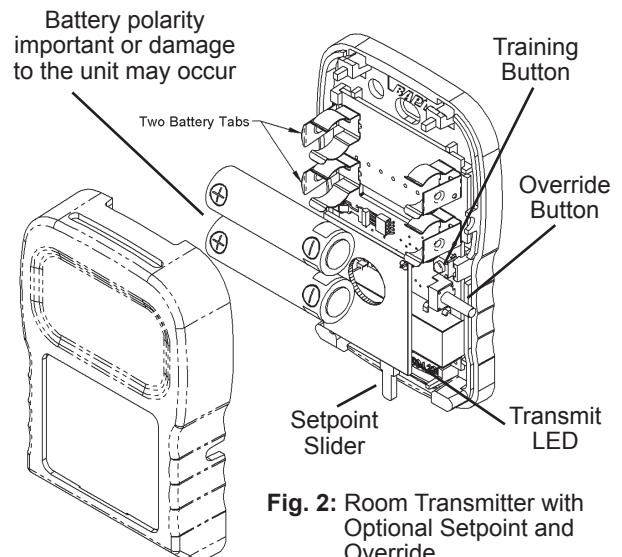
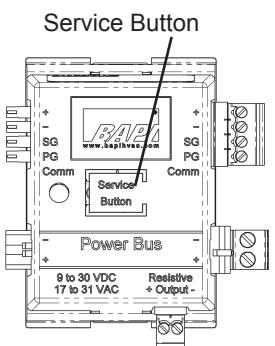

Fig. 2: Room Transmitter with Optional Setpoint and Override.
Fig. 3: Output Module
3. Remove the cover of the room transmitter and remove the battery tabs or install the batteries, observing polarity as shown in Fig 2. The small LED at the bottom right of the circuit board, next to the setpoint, will flash approximately once every 20 seconds, indicating a transmission. (The flash is very quick.)
4. Press and hold down the “Service Button” on the top of the output module (Fig 3) that you wish to train. Then, press and release the “training button” (see Fig 2) on the room transmitter. When the output module receives the “training transmission” from the room transmitter, the output module’s red LED will light. Release the “Service Button” on the output module and the red LED will go out. The transmitter and output module are now trained to each other. During normal operation, the output module’s LED will flash about once every 20 seconds indicating data reception from the transmitter trained to it.
4. Press and hold down the “Service Button” on the top of the output module (Fig 3). Then, press and release the OVERRIDE button on the transmitter (See Fig 2). (Note: If the unit was not ordered with an override function, then the OVERRIDE button will be shorter and will not extend outside the case but will still be accessible upon removing the cover.) When the output module receives the “Training Setpoint” info from the transmitter, the output module’s red LED will light. Release the “Service Button” on the output module and the red LED will go out. The transmitter and output module are now trained to each other. During normal operation, the output module’s LED will flash about once every 20 seconds indicating data reception from the transmitter trained to it.